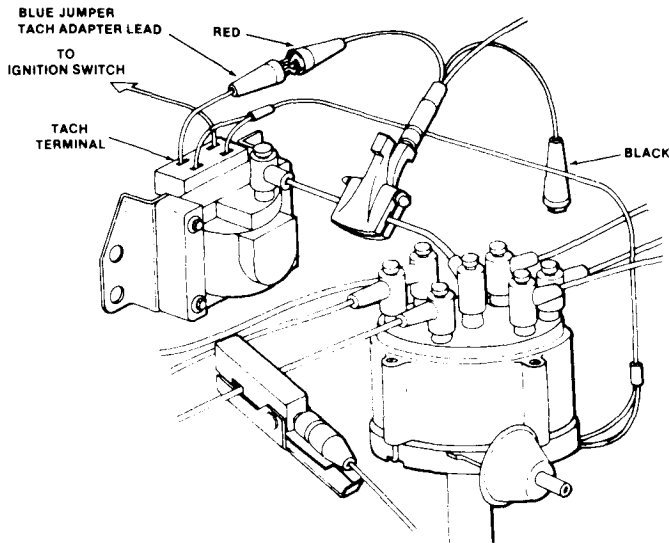

FIGURE 20—Tester connections on Delco HEI L6 and 4 cylinder ignitions.
1. For L6 and 4 cylinder engines, clamp the Chrome PATTERN PICKUP around the secondary coil wire (Figure 20).